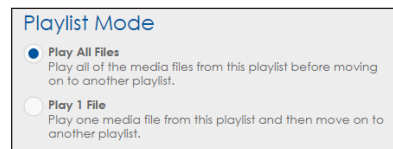

Figure 14: Playlist Mode Options
6. Select the **Playlist Mode**. The default is set to play all media files in the playlist before moving on to the next playlist. Refer to **Figure 14**.